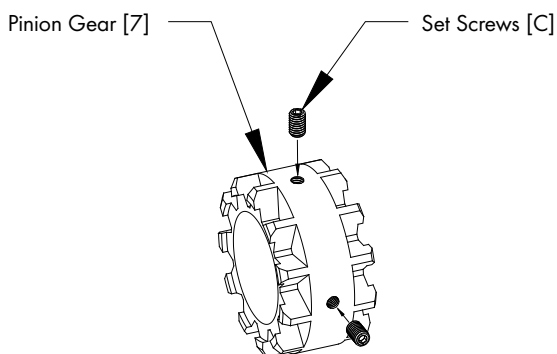
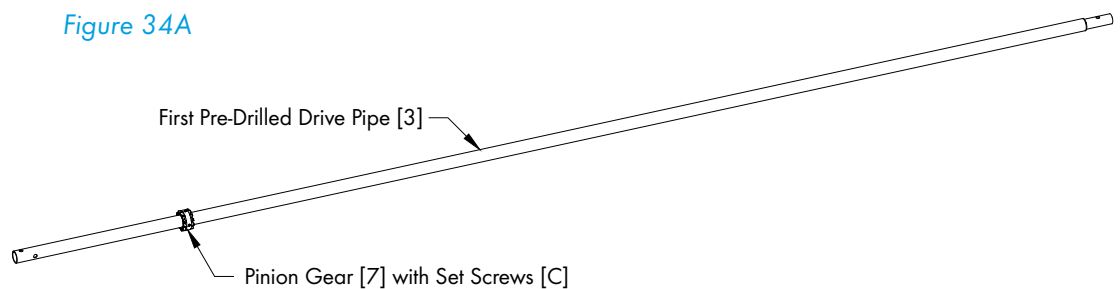

Figure 34A
Figure 34B
Install (2) Set Screws [C] in each Pinion Gear [7]. See Figure 34A. Slide (1) Pinion Gear with Set Screws onto the first pre-drilled Drive Pipe [3]. See Figure 34B. Each Pinion Gear will eventually line-up with each Door Support CHNL Bracket [6].